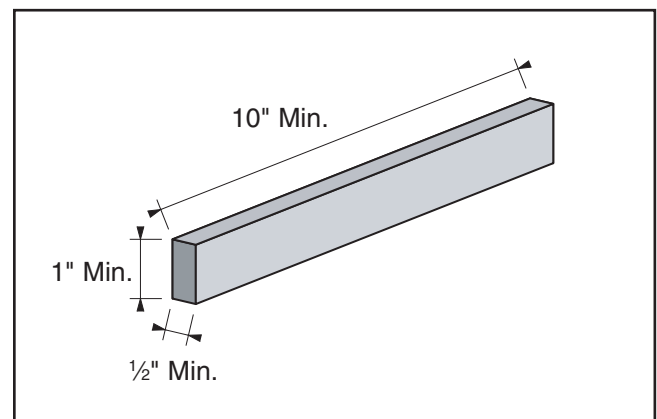

Figure 33. Illustration showing the minimum workpiece dimensions for edge jointing.
- **Make sure your workpiece exceeds the minimum dimension requirements (Figures 33–34) before edge jointing or surface planing, or it may break or kick back during the operation!**